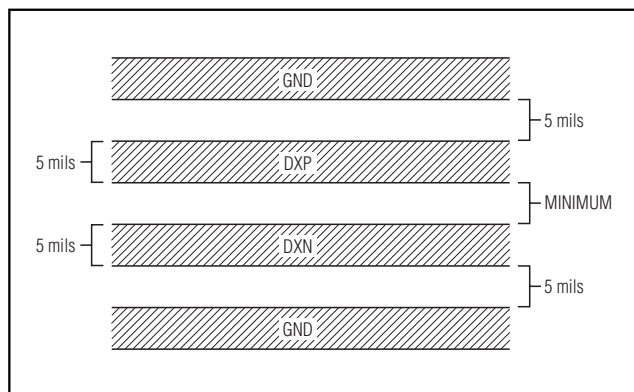

Figure 5. Recommended Minimum DXP-DXN PCB Traces
- 3) Route the DXP and DXN traces in parallel and in close proximity to each other. Each parallel pair of traces should go to a remote diode. Route these traces away from any higher voltage traces, such as +12VDC. Leakage currents from PCB contamination must be dealt with carefully since a 20M Ω leakage path from DXP to ground causes about +1°C error. If high-voltage traces are unavoidable, connect guard traces to GND on either side of the DXP-DXN traces (Figure 5).